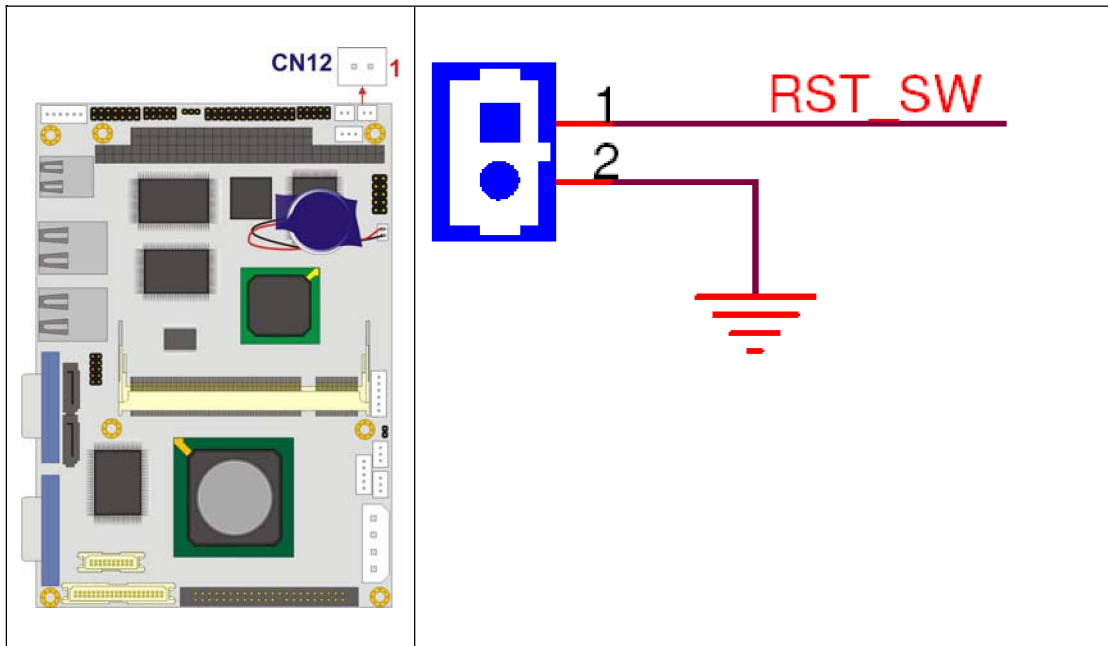

Figure 3-18: Reset Button Connector Locations
- CN Location: See **Figure 3-18**